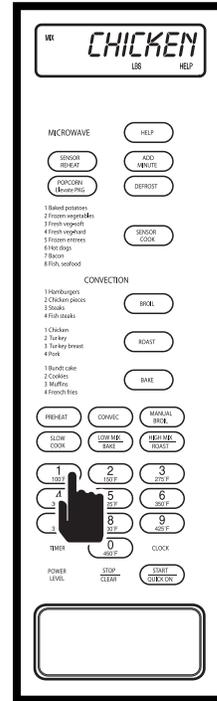

Figure 3-100.
2. Select food number. The four choices are listed to the left of the ROAST key. Press the number 1 key, “CHICKEN - USE - LOW - RACK - ENTER - WEIGHT” will flash on display (See Figure 3-100).